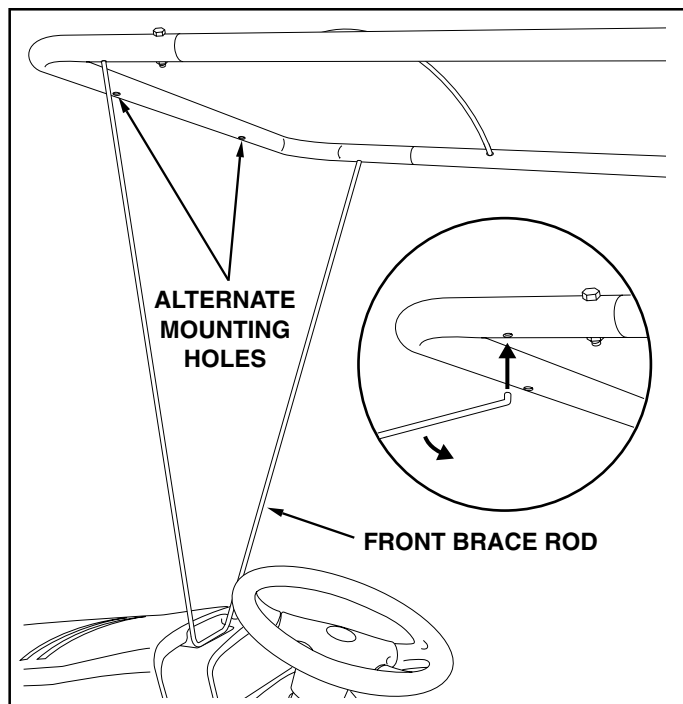

FIGURE 7
- Insert the ends of the front brace rod into the holes in the U-tube and then swing the bottom of the rod down to rest on top of the dash panel. On newer "GT" tractors, use the holes at each end of the U-tube. On older "GT" tractors and on "LT" tractors, the alternate holes in the front section of the U-tube may provide the best fit. See figure 7.